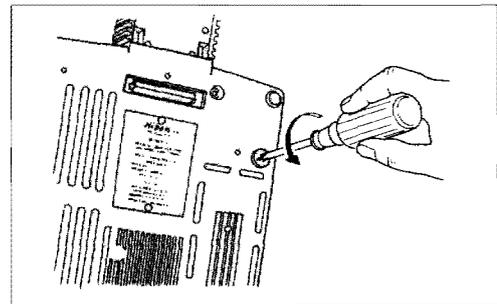

Fig. 2-2
- Remove the fuse holder at the bottom of the base using a plus screwdriver (Fig. 2-2) and make sure that the metal part of the fuse indicates "125V 3.15A" for 100-120V or "250V T2A" for 220-240V.